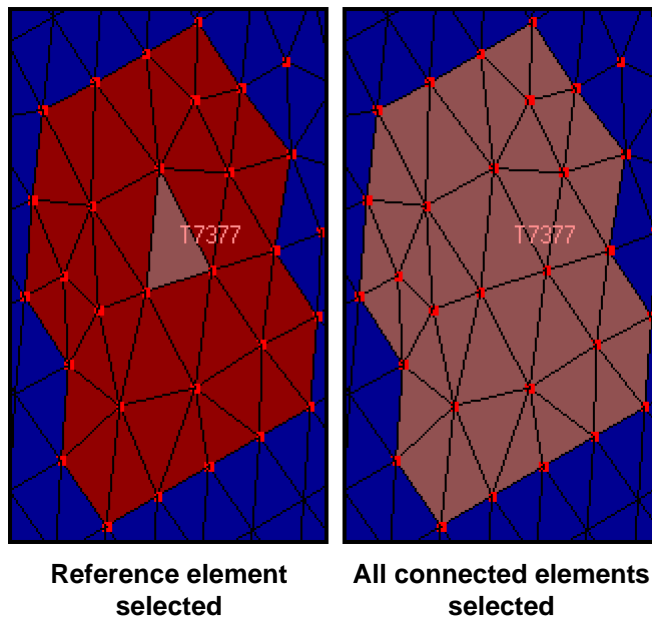

Figure 179: Selecting elements to be oriented by reference element
2. Click on an element in the part that has the correct orientation in a region you would like to orient, such as element T7377 in Figure 179.